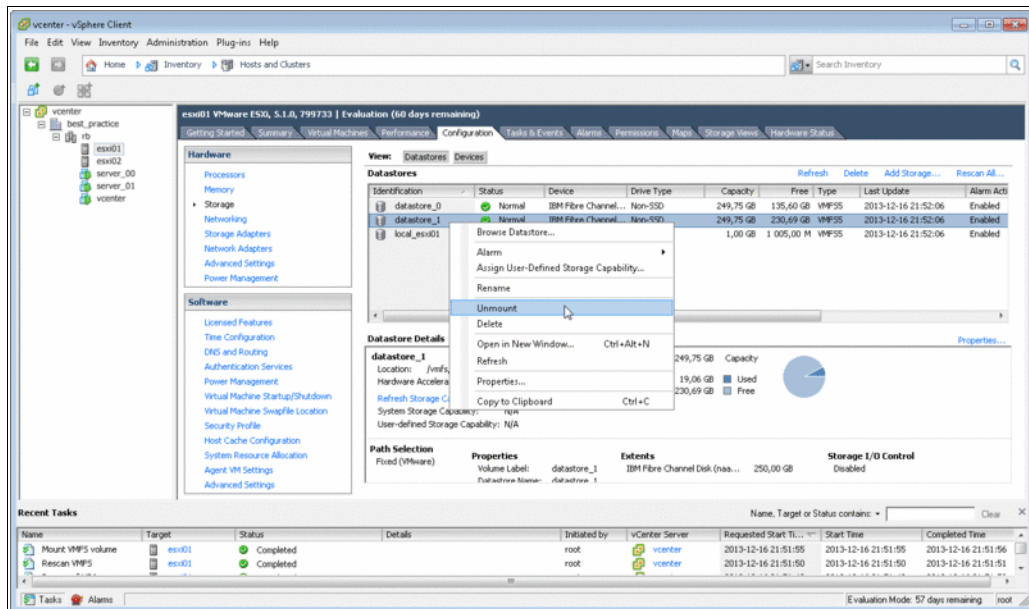

Figure 16-30 Unmounting the datastore
5. Switch to the Storage view, right-click the **datastore_1** entry, and click **Unmount**, as shown in Figure 16-30.